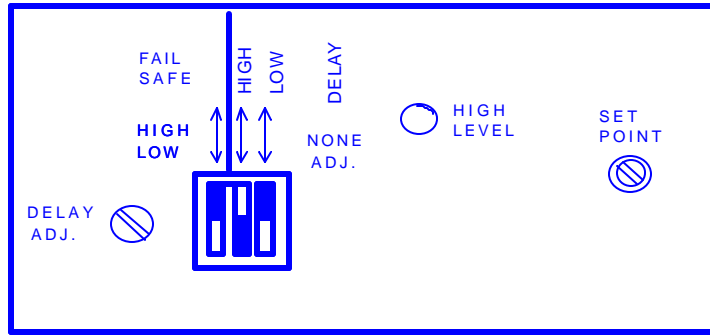

FIGURE 3-1 Control Panel Layout
- Figure 3-1** Control Panel Layout
1. SET POINT control (Figure 3-1)
2. HIGH LEVEL indicator (red LED, Figure 3-1)
3. FAIL-SAFE switch (Figure 3-1)
4. **HI** and **LO DELAY** switches (Figure 3-1)
5. **DELAY ADJ.** control (Figure 3-1)